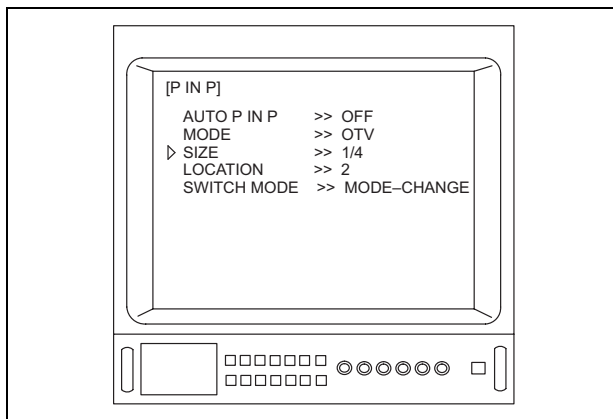

Figure 5.122
6. Depress the menu switches “◀” or “▶”, or the “↑/↓/←/→” key on the keyboard to move the arrow “▷” to “SIZE” (see Figure 5.122).
Depending upon the OTV-S7V's settings, the menus shown in Figures 5.122 and/or 5.123 may appear different from those displayed on the video monitor.